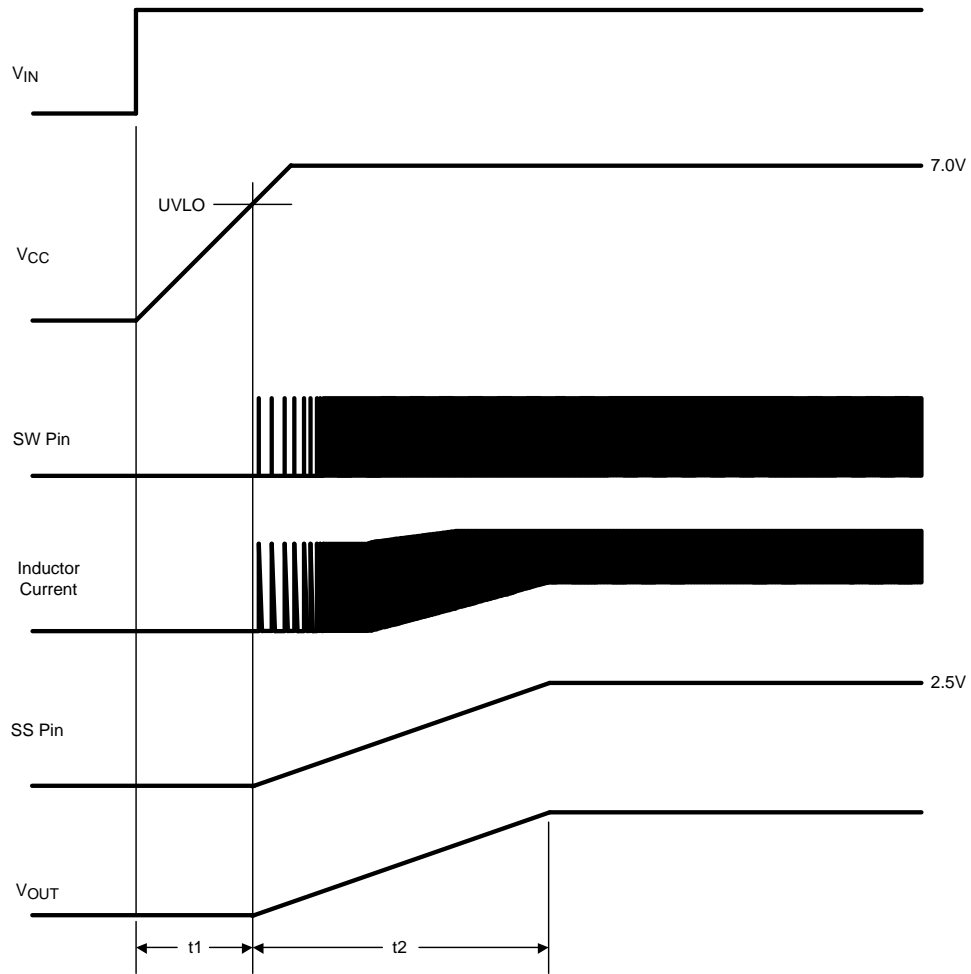

Figure 12. Startup Sequence
The softstart feature allows the converter to gradually reach a steady state operating point, thereby reducing start-up stresses and current surges. Upon turn-on, after  $V_{CC}$  reaches the under-voltage threshold, an internal 11.6  $\mu\text{A}$  current source charges up the external capacitor at the SS pin to 2.5V ( $t_2$  in Figure 12). The ramping voltage at SS (and the non-inverting input of the regulation comparator) ramps up the output voltage in a controlled manner.
**C3:** The capacitor at the  $VCC$  pin provides noise filtering and stability for the  $VCC$  regulator. C3 should be no smaller than 0.1  $\mu F$ , and should be a good quality, low ESR ceramic capacitor. C3's value, and the  $VCC$  current limit, determine a portion of the turn-on-time ( $t_1$  in Figure 12).
**C6:** The capacitor at the  $SS$  pin determines the soft-start time, i.e. the time for the output voltage to reach its final value ( $t_2$  in Figure 12). The capacitor value is determined from: